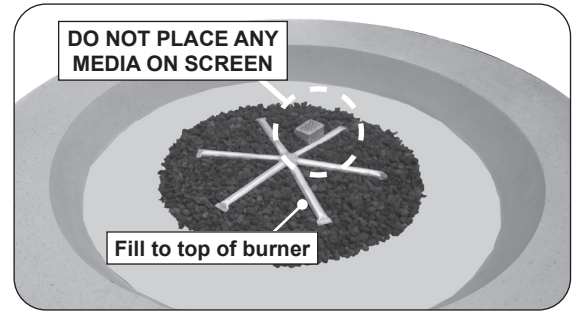
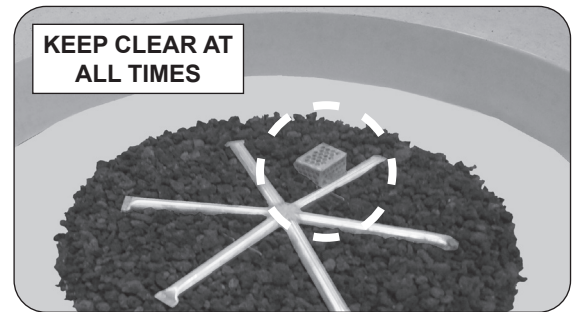

Fig. 35-1 Place lava granules
Fig. 35-2 Screen detail
1. Pour the 10 lb bag of lava granules into the burner area (with the exception of the screen). Spread the granules within the burner area as shown in Fig. 35-1 and Fig. 35-2. **Only fill the granules up to the top of the burner tube.**
**Note:** Select 12" star burner models only require half of the lava granules bag. **Do not overfill.** See Fig. 35-1 and Fig. 35-2.